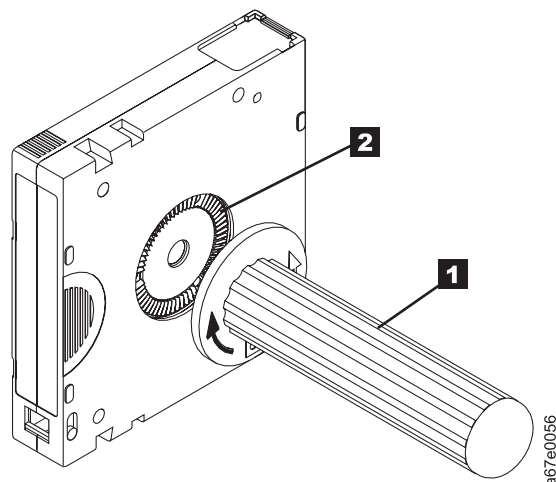

Figure 20. Rewinding the tape into the cartridge
5. To rewind the tape, insert the cartridge manual rewind tool ( **1** in Figure 20) into the cartridge's hub ( **2** ) and turn it clockwise until the tape becomes taut.